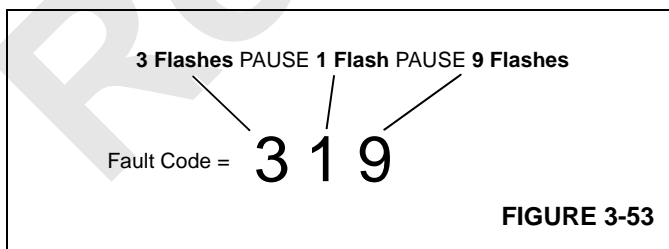

FIGURE 3-53
- c. Red Engine Stop light flashes a three-digit code to show which active fault has been detected (see Figure 3-53 for example). There is a 1 to 2-second pause between each number.